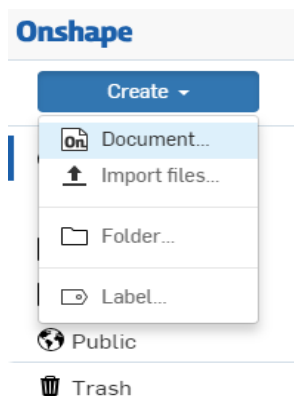

Figure 2.2: Creating a new document on Onshape.
- 1) Create a new document by clicking the “Create” button at the top left corner of the screen and selecting “Document” as shown in figure 2.2.